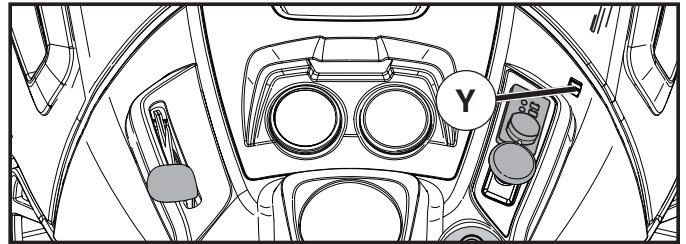

Fig. 9
TO USE DIFFERENTIAL LOCK CONTROL (Y) (See Fig. 9)